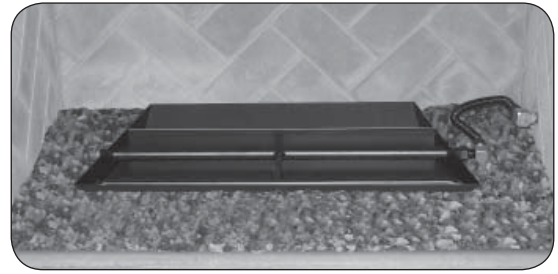

Fig. 10-1 Place lava media (if purchased)
1. Spread the lava granules on the floor of the fireplace, around the front and sides of the burner system (see Fig. 10-1).